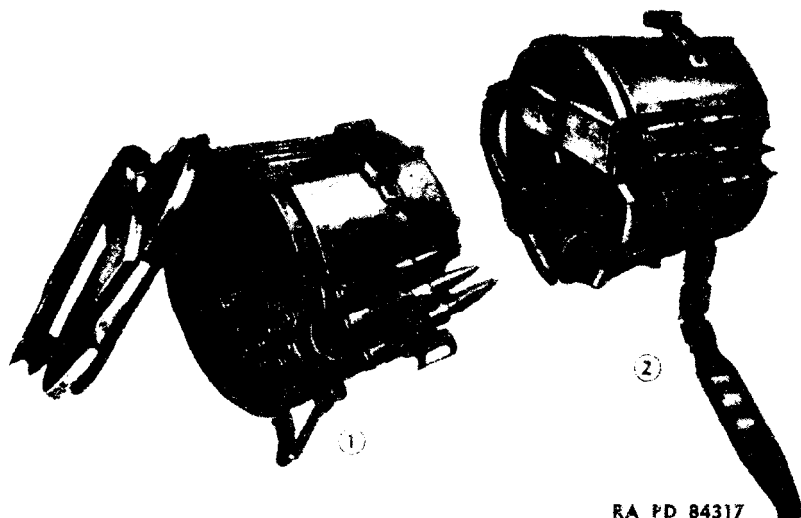
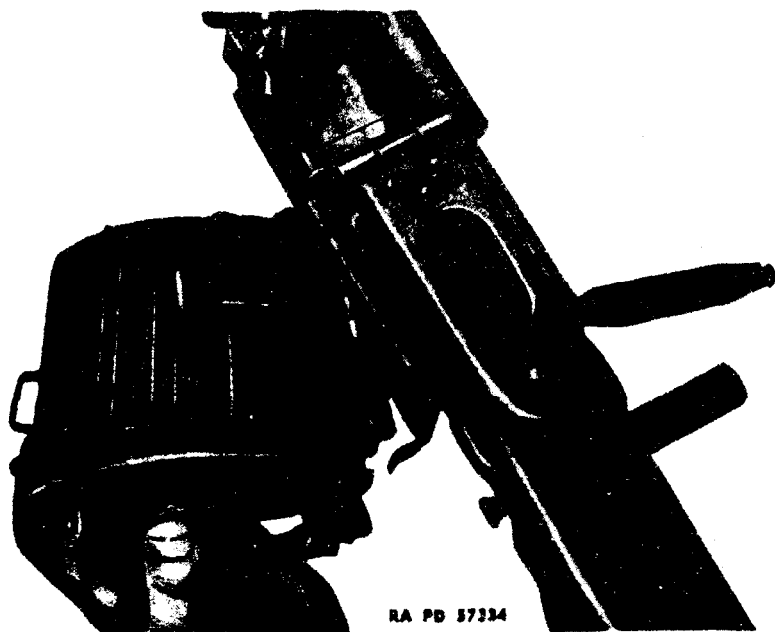

Figure 13 -- Loading a Belt Drum Magazine
Figure 22 — Mounting Belt Drum Magazine
(1) Fill an extension belt and turn it over with tongues on bottom and empty link to the right. Roll up the belt from the left end and insert it into the belt drum magazine with the empty link on the outside (① fig. 13).
(2) If the magazine is to be used immediately or within a short time, fill a short leading belt and attach it (② fig. 13). If the magazine is not to be used for some time, do not join a short leading belt. Instead, close the magazine slide and the cover, to keep dust out.
c. **Loading the Machine Gun With a 50-round Belt Drum Magazine.** See that the bolt is fully home and the safety set at **FIRE** (move safety forward to uncover letter "F," (fig. 17)). Take a fully loaded belt drum magazine (② fig. 13) and insert the leading tab into the feed opening on the left side of the gun. Attach the magazine to the front hook on the feed block (fig. 22), press the latch on the magazine, and secure it to the rear hook on the feed block. Pull the